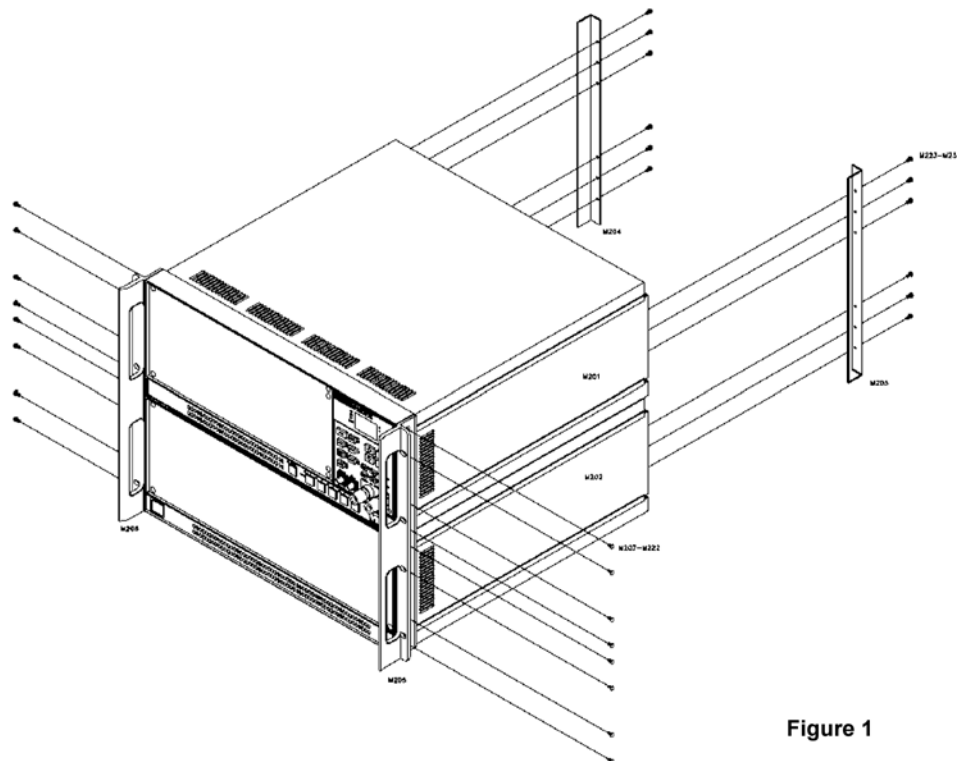

Figure 1
2. Attach the handles to the left and right sides (Figure 1) using the screws provided. The handles should protrude forward from the front of the units.
1. From each unit, remove the six (6) screws on the rear panel (3 screws on the left and 3 screws on the right). Figure 1 shows the six screws for each of two units.
2. Align the holes of the rear supports (vertical angle brackets) with the screw taps on the rear panels and screw into place (Figure 1).